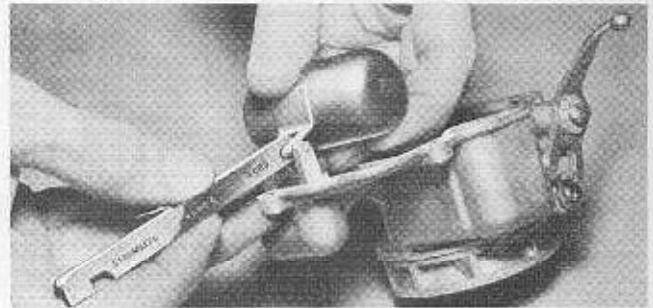
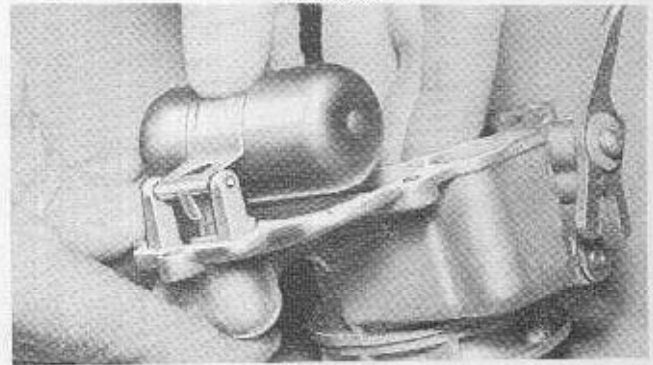
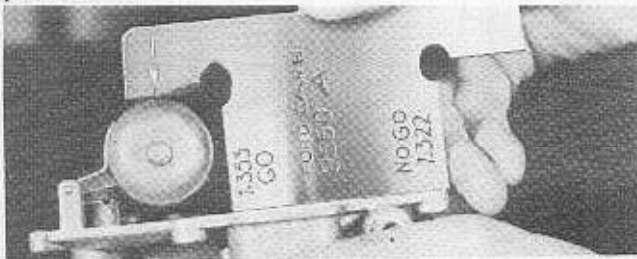
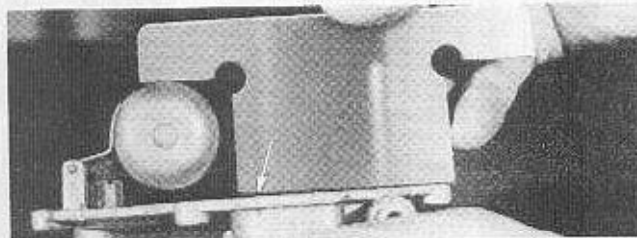

Fig. 36
Fig. 37
Fig. 34
Fig. 35
- (1) 78-9558 Float hinge pin
**51** Check float position using #9550-A Go-No Go gauge. "Go" end of gauge must clear float at arrow as shown in Fig. 34. "No-Go" end of gauge must rest on float and clear air horn at arrow as shown in Fig. 35. Be sure to **make both checks** as shown in Figs. 34 and 35 **on each end of the float.** For Lincoln-Zephyr, 1936 to 1940 and all 1941 Lincolns, use a  $\frac{1}{16}$ " thick feeler between float and the "Go" or "No Go" ends of the #9550-A gauge.
**52** If float position is not correct it may be changed as shown in Figures 36 and 37. Float arm bending tool #9550-C is used as shown in Fig. 36 if the "No-Go" end of float position gauge does not touch float as shown in Fig. 35. Bend float arm as shown in Fig. 37 if the "Go" end of float position gauge does not clear float as shown in Fig. 34.